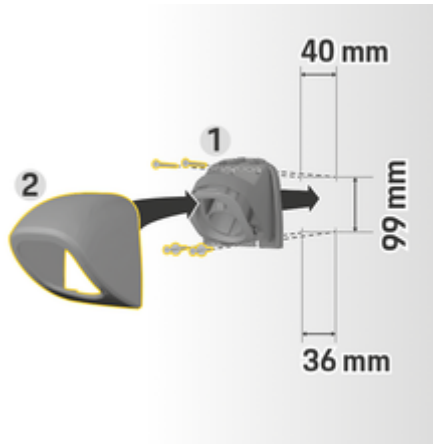

Fig. 10: Drilling dimensions
1. Remove plug holder **1** from the cover (Fig. 10) **2** (Fig. 10).
4. Screw the plug holder **1** (Fig. 10) to the wall.
5. Fit the cover **2** (Fig. 10) onto the plug holder **1** (Fig. 10) from below and press it upwards.